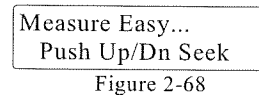

Figure 2-68
- b. Press the  or  key until LCD displayed message as in figure 2-68.